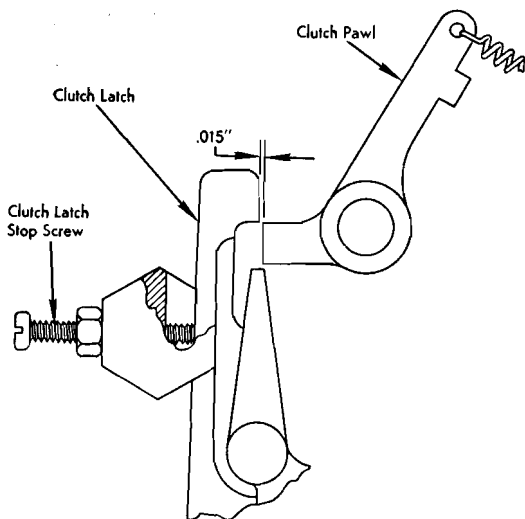

Figure 29. Clutch Adjustment
2. Set clutch latch stop screw for .015" clearance between the latch point and the tail of the clutch pawl when the latch is against the latch stop screw. Move magnets if necessary (Figure 29).